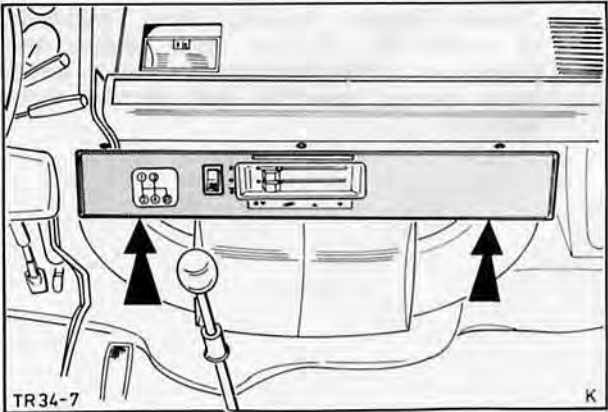

Fig. 18. Install control panel bezel
10. Install control panel bezel and secure with 2 screws, Fig. 18. Connect cables to blower switch and symbol illumination.